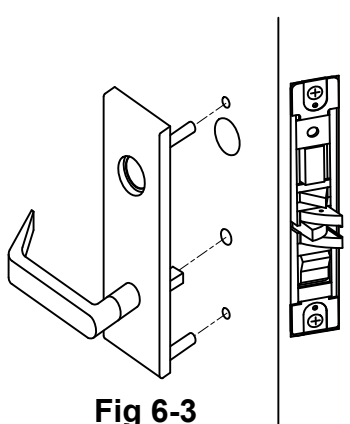

Fig 6-3
3. Install outside trim with mounting posts through door and position spindle into hub of lock case (Fig 6-3)